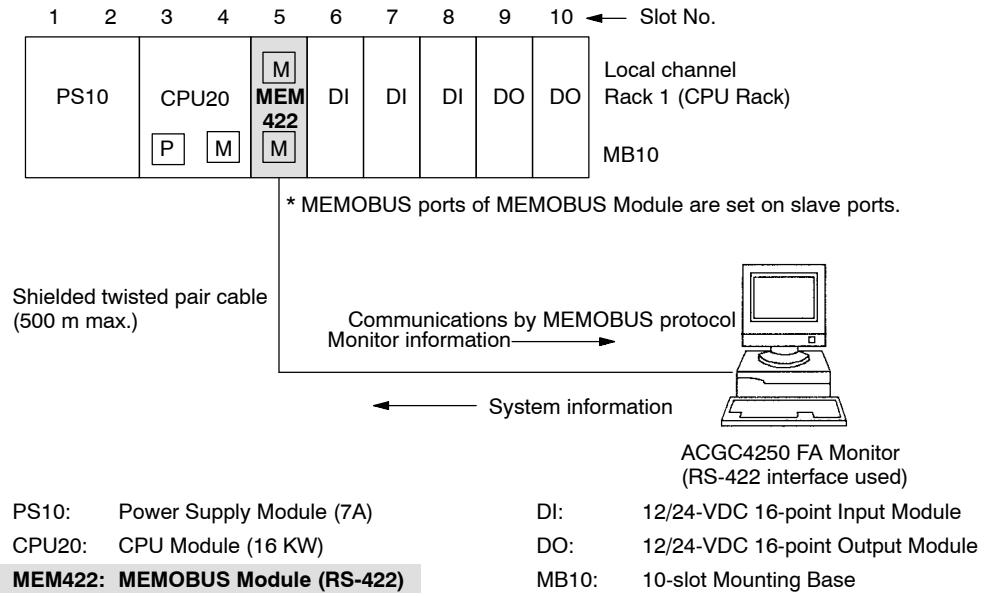
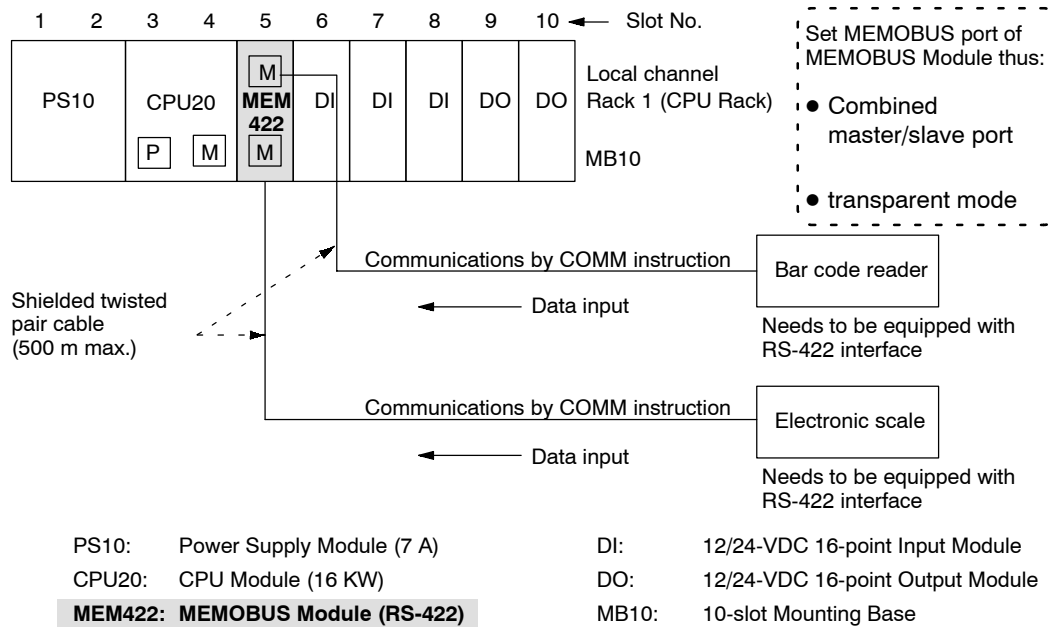

Figure 4.33 Connecting ACGC4250 FA Monitor (1:1 Communications)
Figure 4.36 Connecting ASCII Devices (1: 1 Communications)
- c) Examples of how to use the MEMOBUS Module are shown in *Figure 4.33* to *Figure 4.36*.